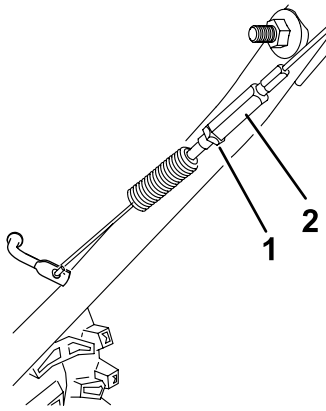

Figure 27
5. Loosen the jam nut (Figure 27).
6. Loosen or tighten the turnbuckle that adjusts the tension on the cable (Figure 27).